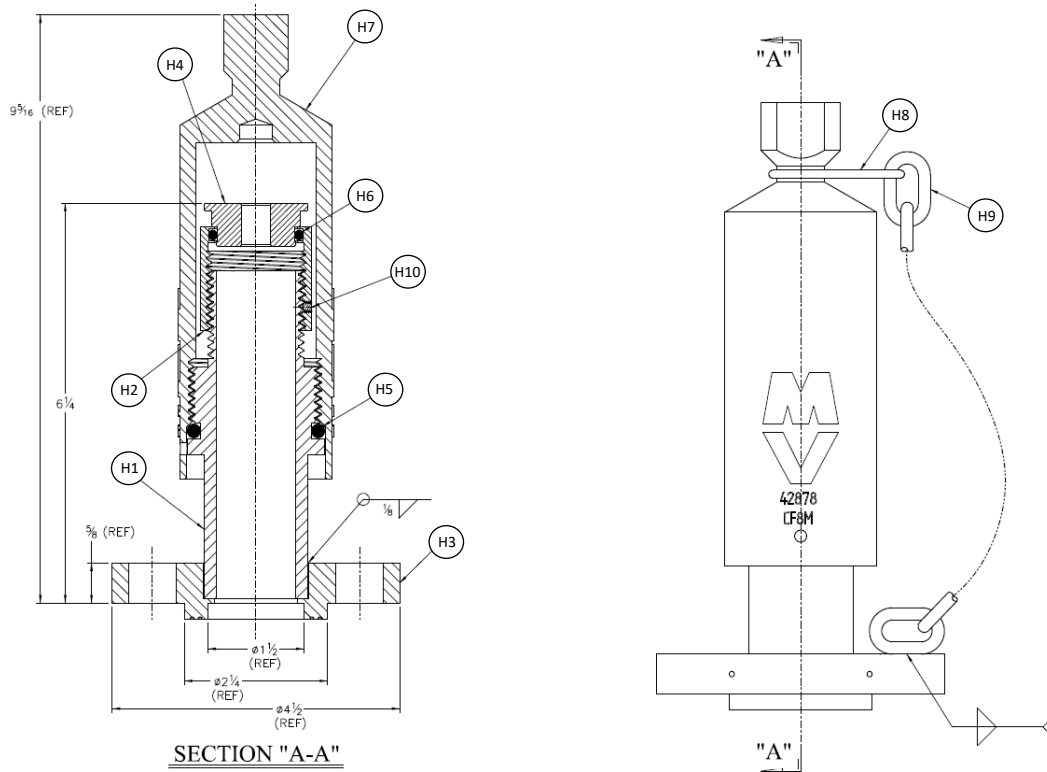

Figure 3: Drawing 516423 Housing Assembly
- 6.24.2. If the marking is not properly aligned, it can be moved +/- 1/4 inch from the nominal 6 1/4 inch dimension shown in Figure 3. Loosen the Set Screw (H10) on the housing, move the Adjustment Cap (H2) within the allowed range to meet proper alignment, re-tighten Set Screw (H10) to be